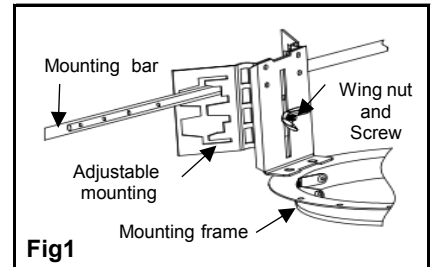
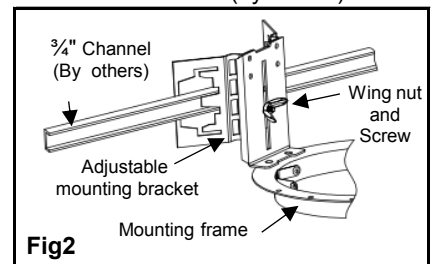

Fig1
Fig2
2. Install MOUNTING FRAME using ADJUSTABLE MOUNTING BRACKET as shown in the Fig1 Fig2 and Fig3
NOTE : Final vertical adjustment can be made by means of WING NUT AND SCREW (Fig1) on inside of MOUNTING FRAME